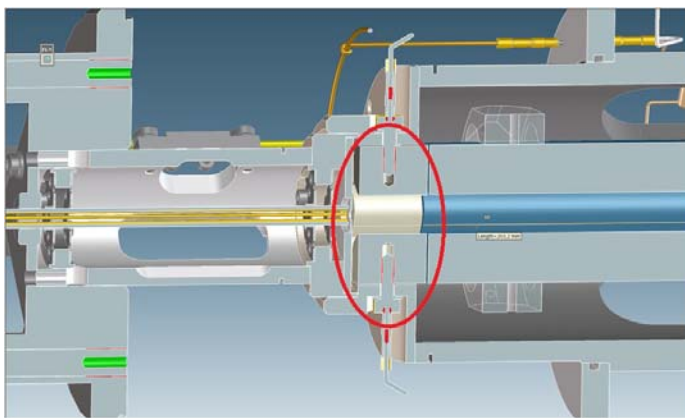

Figure 11. Prefilter lens
- Ion optics** A prefilter in front of MS1 replaces Lens 2 for a more efficient injection of ions in Q1. See **Figure 11**. The prefilter improves the efficiency in transporting ions to MS1. The changes have resulted in lower limits of detection and improved RSDs (relative standard deviations).